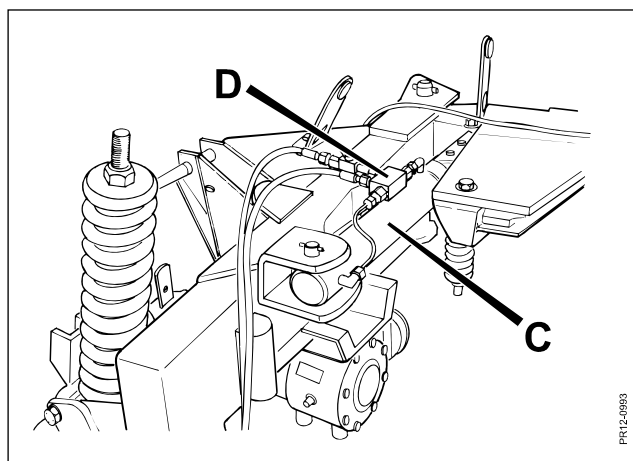

Fig. 3-4
- Fig. 3-4 The swivel cylinder **C** "is locked" in transport position by closing ball valve **D**.